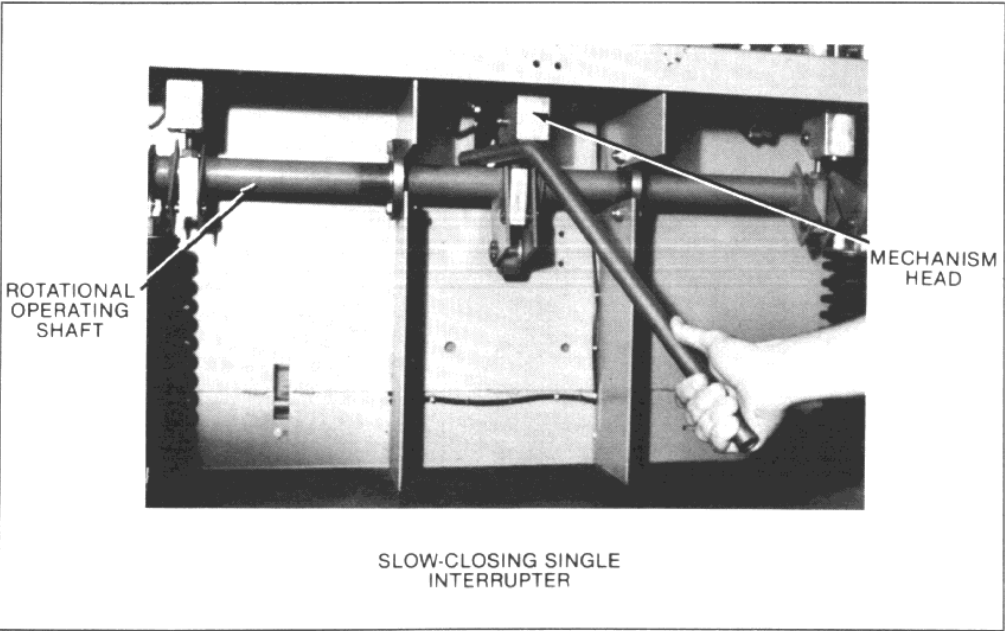

Figure 8
- c) Position the manual charging lever so that it rests on the rotational operating shaft and under the operating mechanism head of the bottle being evaluated (Figure 8).
5. Using the manual operating handle as shown in Figure 8, operate the mechanism head upward until continuity is obtained. Observe the wear mark located on the stationary rod